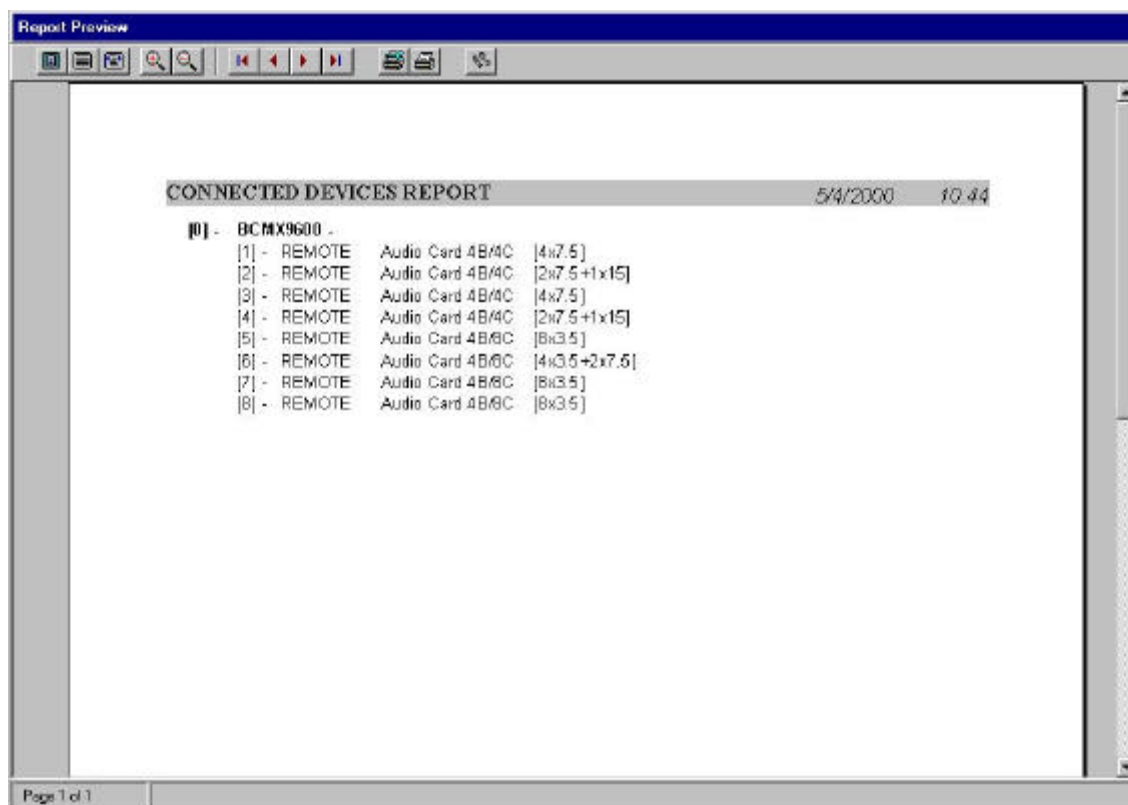

FIG. 20
- Connected devices (*figure 20*).